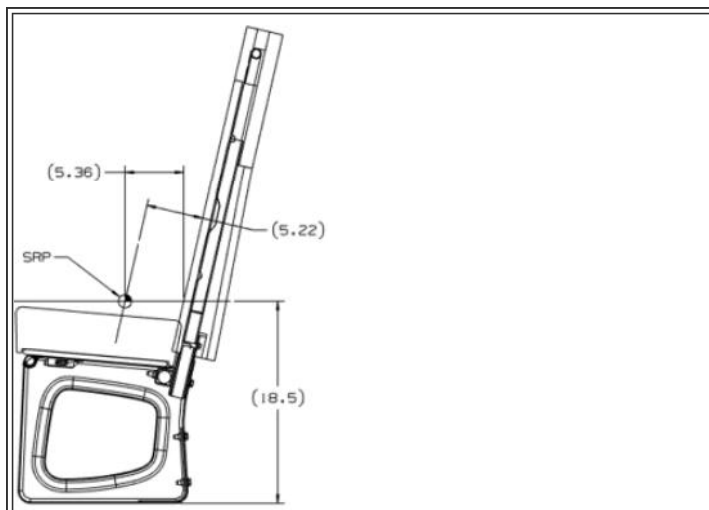
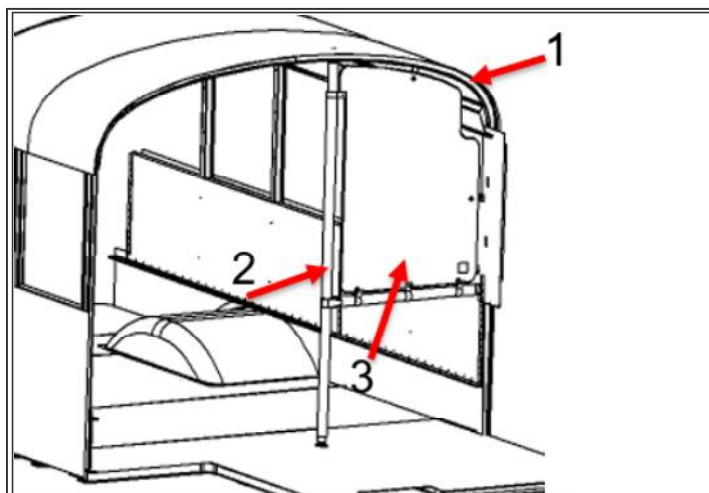
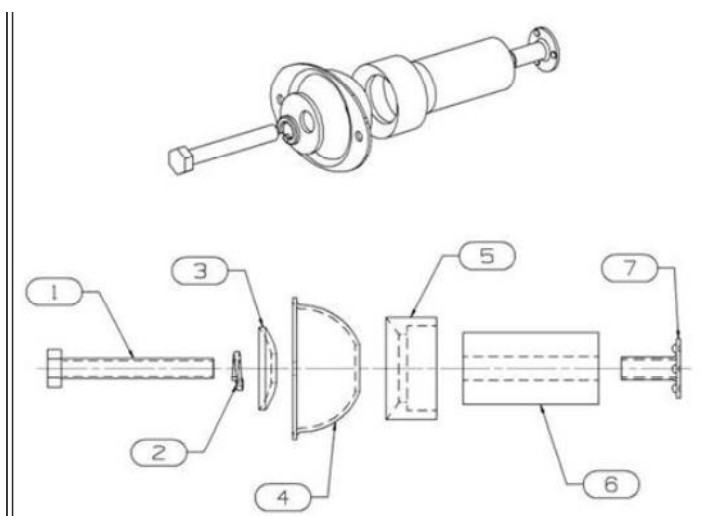

Figure 3: Seating Reference Point (SRP)
Figure 4: Stanchion location
Figure 5: Stanchion Foot Assembly
6. To start installing the new stanchion aft of driver, the location will be at the zero bow (bow in front of first window, figure 4) and must be greater than 30" in front of the first seats SRP (see figure 3 below for defining location of SRP)
7. See figure 4 for illustration of correct mounting location of new stanchion
8. Sub-assemble the stanchion foot assembly as shown in Figure 5, and then the complete stanchion and install to the floor, ceiling, and wall as shown in figure 4.